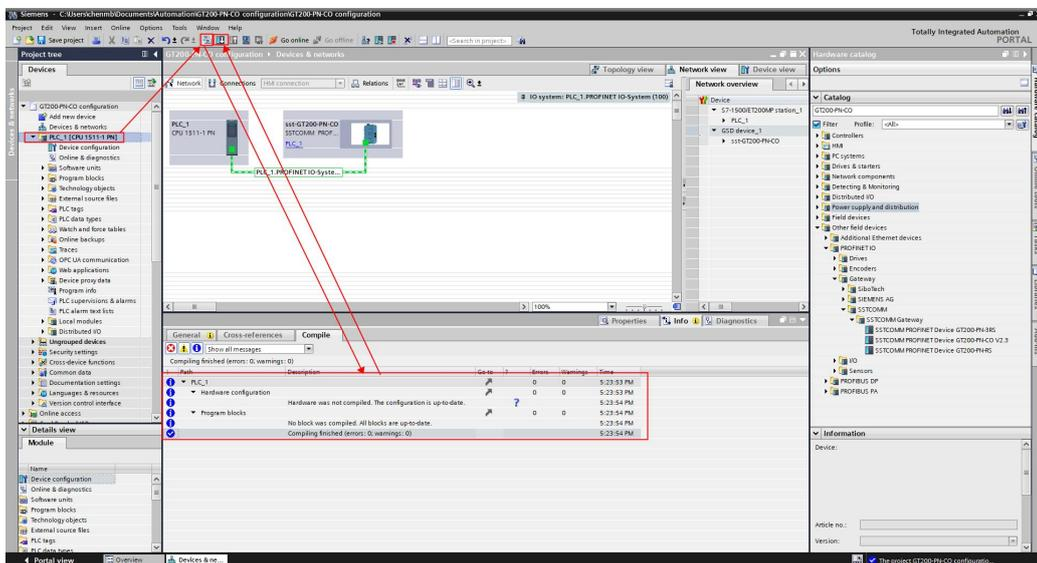

Figure 16: Compile the project file
3.8 After all is completed, select "PLC_1[CPU1511-1PN]" on the left and click "Compile" at the top. If there is no error in "Compile", click "Download" at the top, as shown in Figure 16.